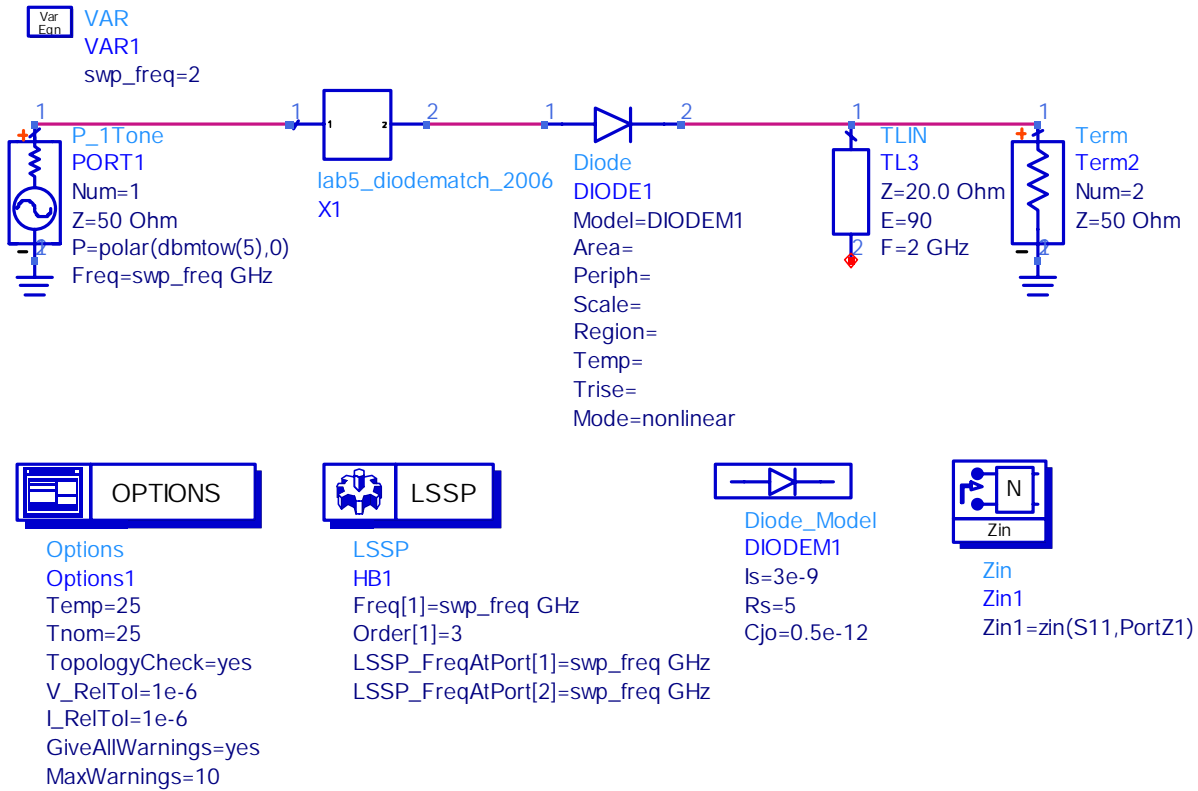

Figure 4. Schematic used for large-signal S-parameter simulation of the diode, including the (lumped element) RF matching network.
- 3) Generate a schematic of the matching network (using ports, not terminations) and add a reference to this circuit from the higher-level schematic (see Figure 4). You may want to save the “higher-level” schematic to a new filename, in case you need to repeat any simulations from the previous section.
Table 2. Large-signal simulation results for the schematic in Figure 4 at 2 GHz.